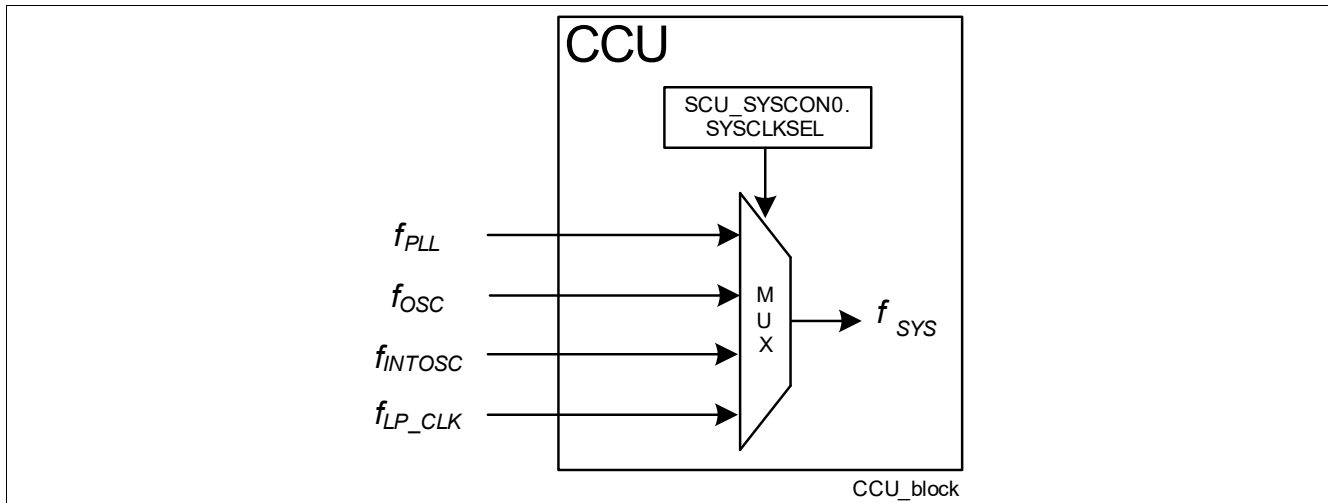

**Figure 11 TLE9843QX External Circuitry for the OSC\_HP**
**Figure 11** shows the recommended external circuitries for both operating modes, External Crystal Mode and External Input Clock Mode.